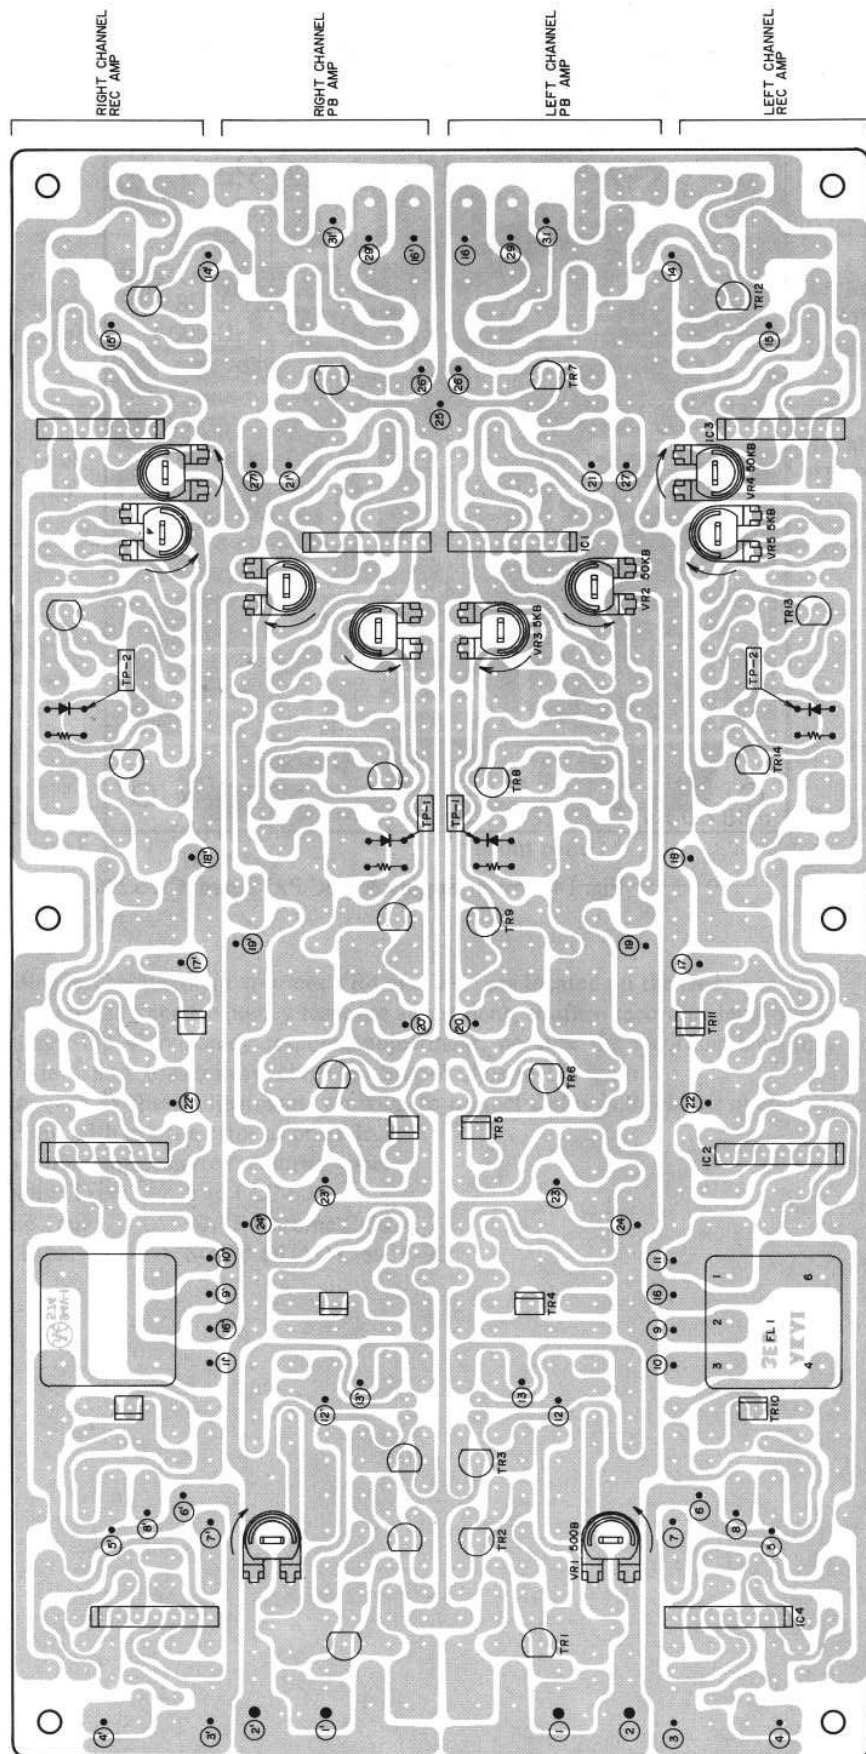
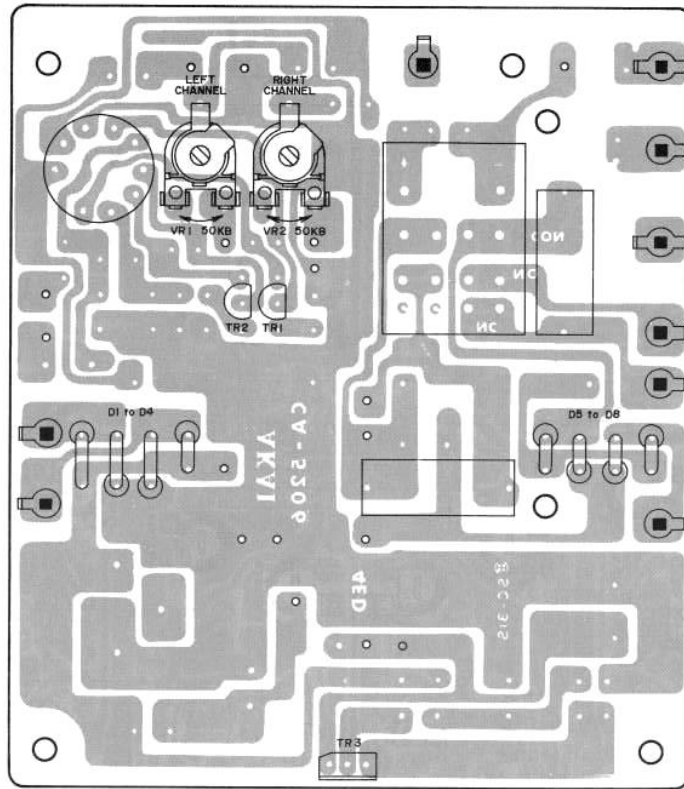

Fig. 13 Pre Amp P.C Board CA-5205
Fig. 14 Power Supply & OSC P.C Board CA-5206
1. RECORDING/PLAYBACK AMPLIFIER (See Fig. 13, Fig. 14 and Chart-1)
ADJUSTMENT (See Fig. 13)
Adjustment (See Fig. 13)
- e. With the Dolby Noise Reduction Switch at ON, adjust semi-fixed resistor VR4 (50 k Ω) shown in Fig. 13 to obtain a -20 dBm level at center terminal of REC CAL Volume.
- f. Disconnect Test Point TP2 from ground and adjust semi-fixed resistor VR5 (5 k Ω) shown in Fig. 13 to obtain a -22 dBm level at center terminal of REC CAL volume.